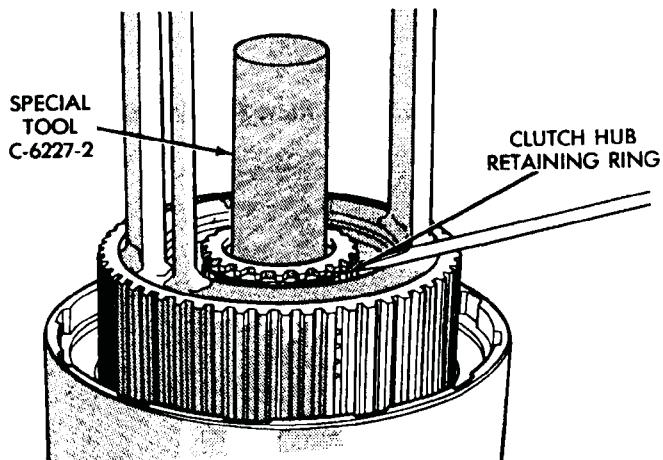

Fig. 63 Clutch Hub Retaining Ring Installation
(29) Install clutch hub retaining ring (Fig. 63). Be very sure retaining ring is fully seated in sun gear ring groove.
(30) Slowly release press ram, remove compressor tools and remove geartrain assembly.